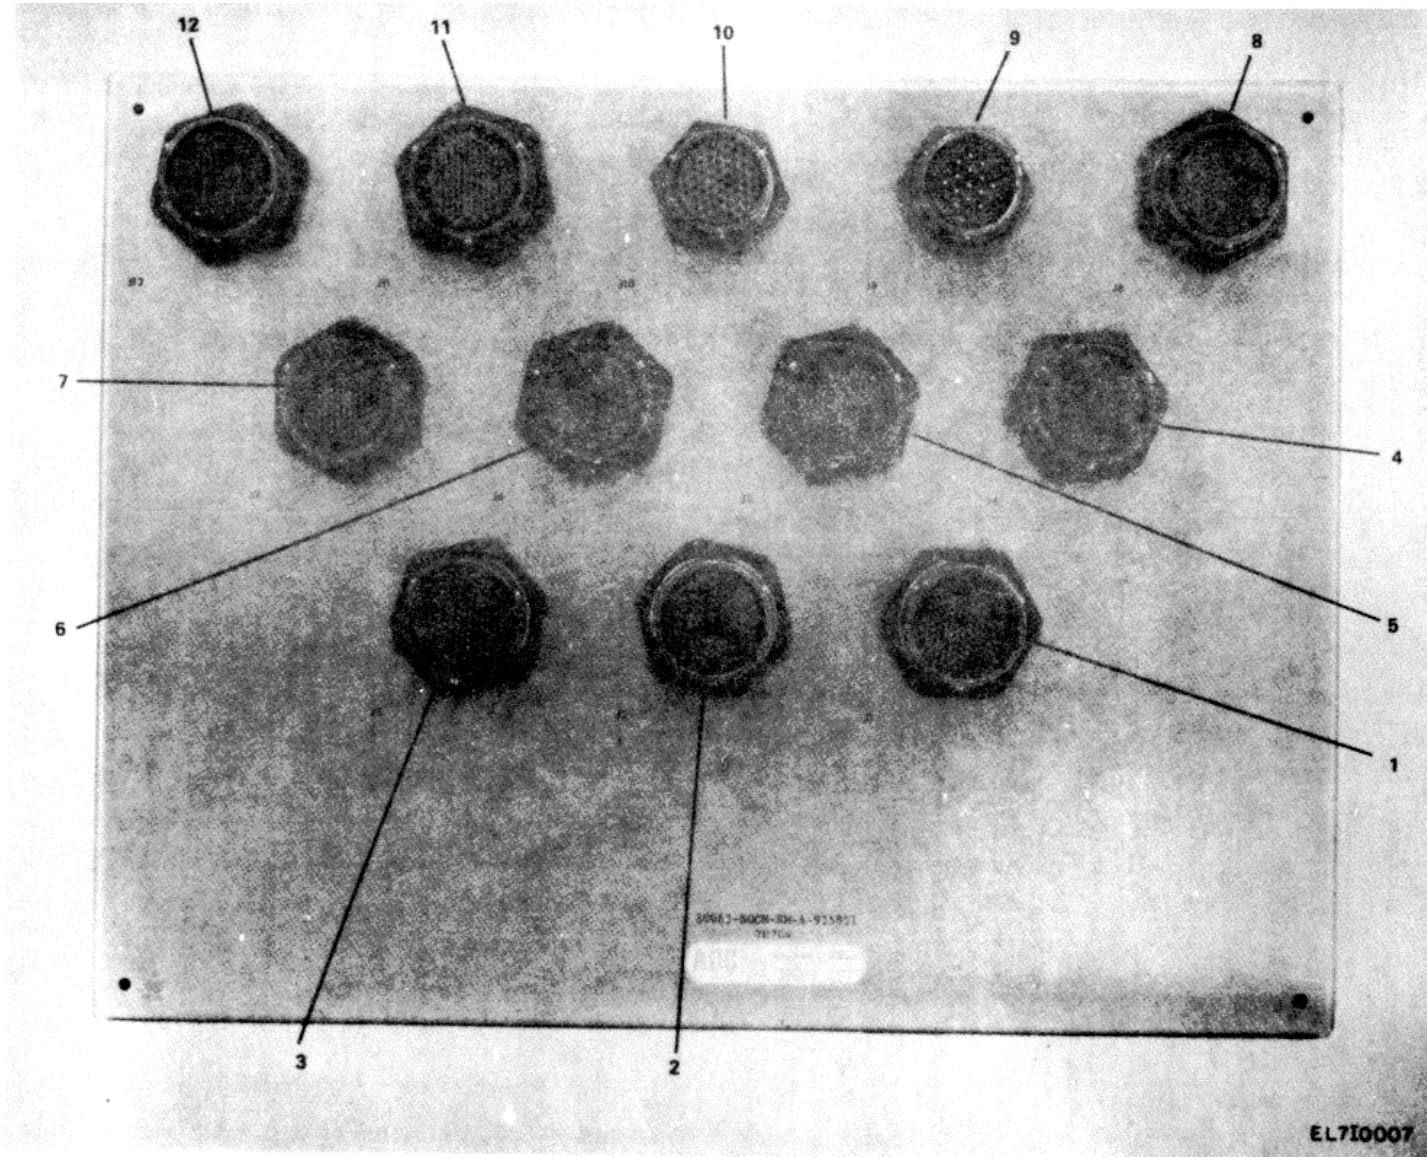

Figure 3-1. VF Patch Panel, Rear View.
- d. Refer to figure 3-1 to tag and remove the cables from the rear of the patch panel unit. Remove and tag the cables in reverse order (12 thru 1) by reaching through the access port.